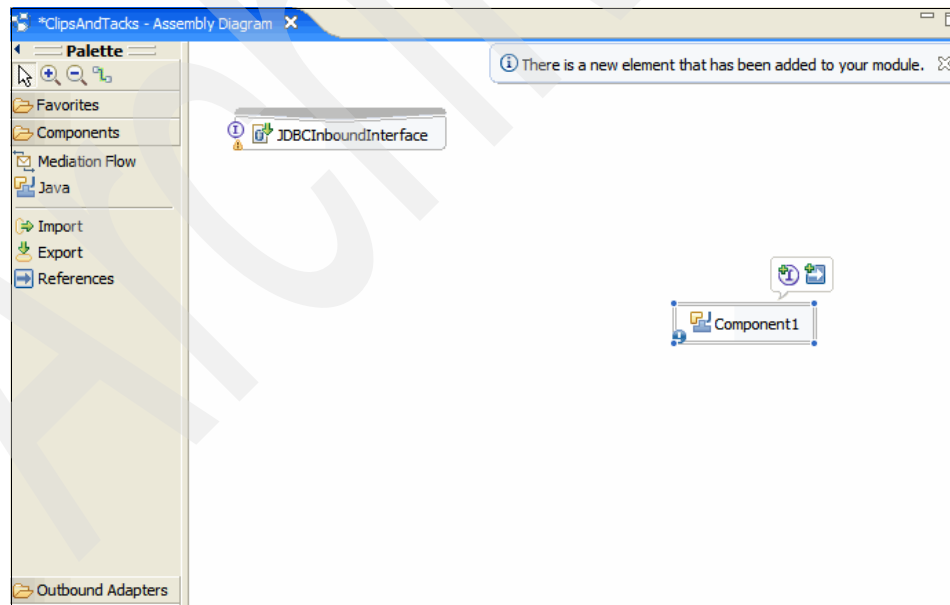

Figure 6-17 Adding a Java component
1. In the assembly diagram (Figure 6-17), go to the palette panel. Click the **Components** tab and select **Java**. Click the assembly diagram canvas and then select the **Java** component.